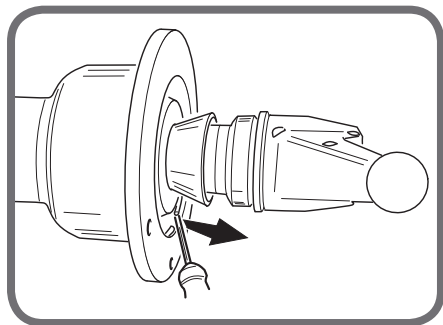

Fig. 11
- using a screwdriver, remove the ring as shown in figures 11 and 12.